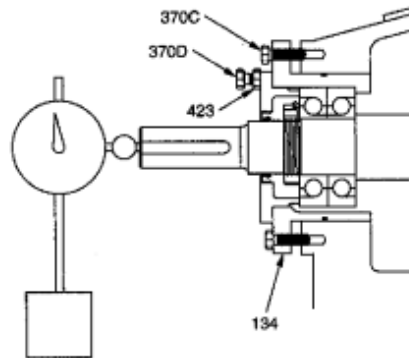

FIGURE 11
- (c) Place a dial indicator with a magnetic mounting base on the surface of the pump baseplate. Position indicator against face of pump shaft. SEE FIGURE 11.